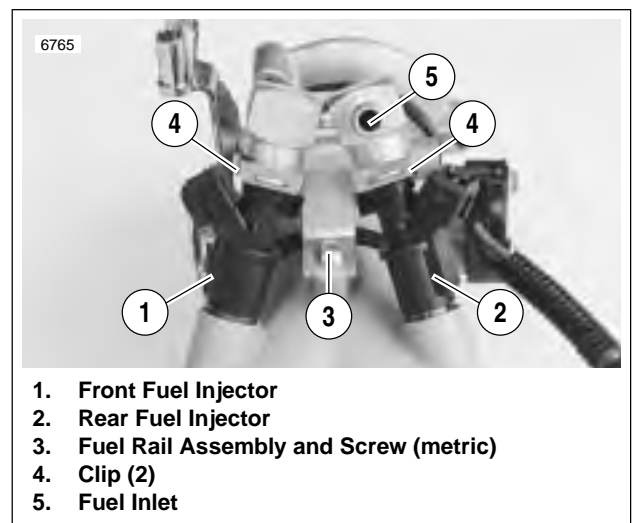

Figure 4-96. Fuel Injectors
2. See Figure 4-96. Separate fuel rail assembly (3) from intake manifold.
- a. Remove both injector clips (4).
- b. Remove screw (3) (metric) that holds the fuel rail to the manifold.